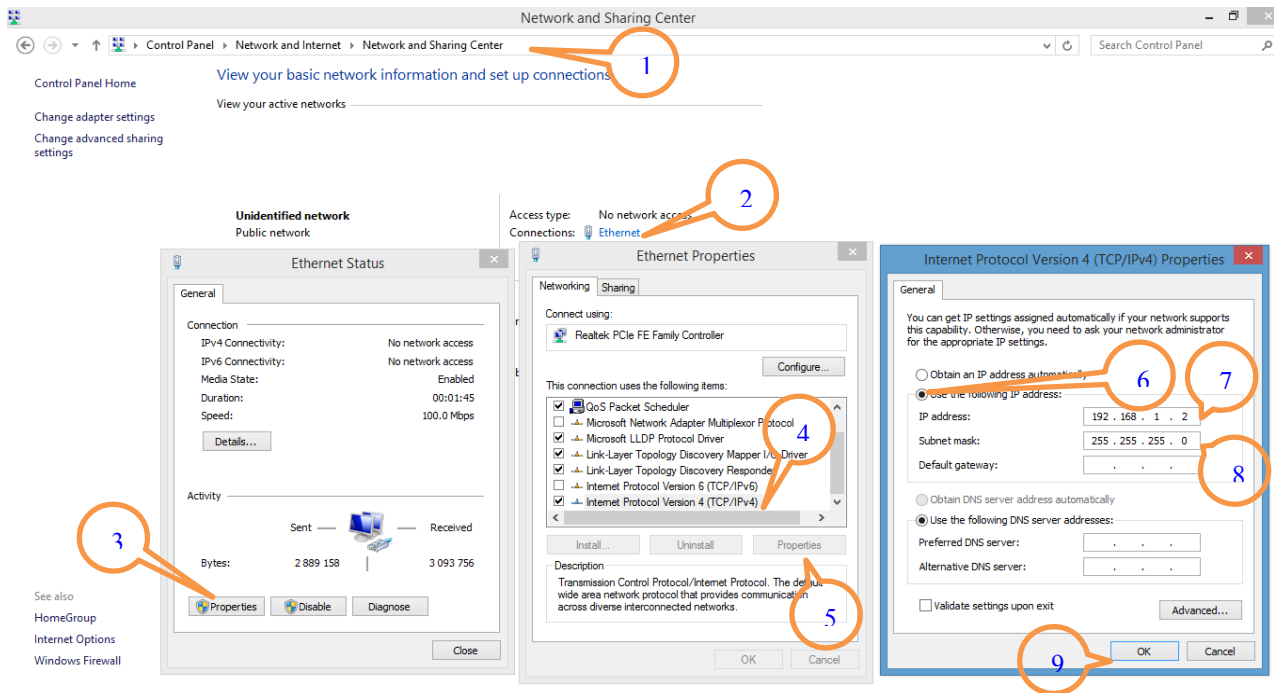

Figure 12 - Example of Static IP configuration on PC for poit-to-point connection
- If the Ethernet network adapter of the PC has not a static IP address, configure the address 192.168.1.2 and the subnet mask 255.255.255.0 as in the example of figure 12 with Windows 8 © operating system.
The IP address of SAT ETHERNET has to be configured with the same static IP address of the computer plus 1 added at the last part, so, if figure 12 example is considered, it would be 192.168.1.3.
IP address? 1/4 xxx	Enter the static IP address in 4 steps (1/4, 2/4, 3/4, 4/4). Example of figure 12: IP address is 192.168.1.3, enter at step 1:192, step 2:168, step 3:001 and step 4:003.
Netmask? 1/4 xxx	Enter the netmask in 4 steps (1/4, 2/4, 3/4, 4/4). Example of figure 12: netmask is 255.255.255.0, enter at step 1:255, step 2:255, step 3:255 and step 4:000.
Gateway? 1/4 xxx	Enter the gateway in 4 steps (1/4, 2/4, 3/4, 4/4). Example of figure 12: gateway is 0.0.0.0, enter at step 1:000, step 2:000, step 3:000 and step 4:000.